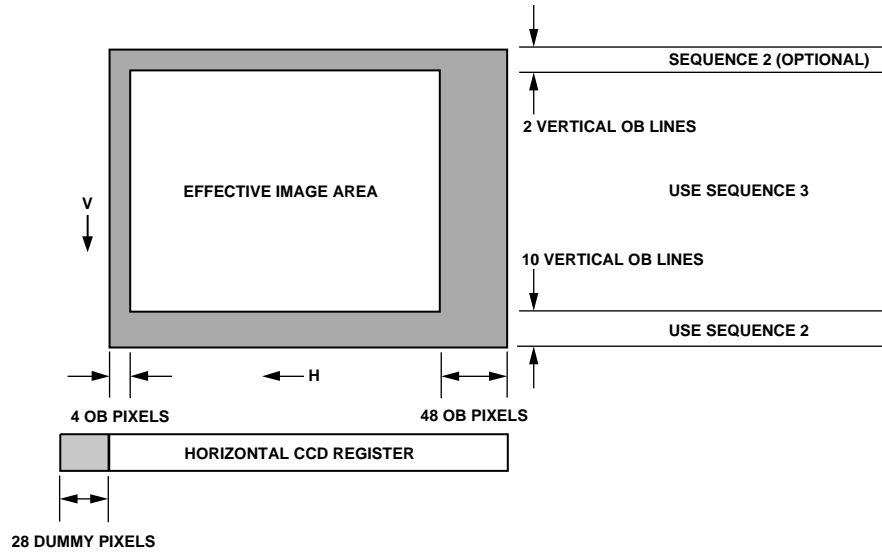

Figure 43. Example CCD Configuration
Figure 43 shows an example CCD layout. The horizontal register contains 28 dummy pixels, which occur on each line clocked from the CCD. In the vertical direction, there are 10 optical black (OB) lines at the front of the readout and two at the back of the readout. The horizontal direction has four OB pixels in the front and 48 in the back.